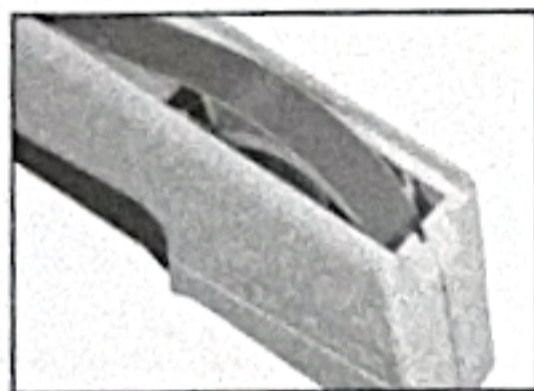

Figure 3
3. Place vinyl labeling tape into tape compartment located in handle (figure 3).